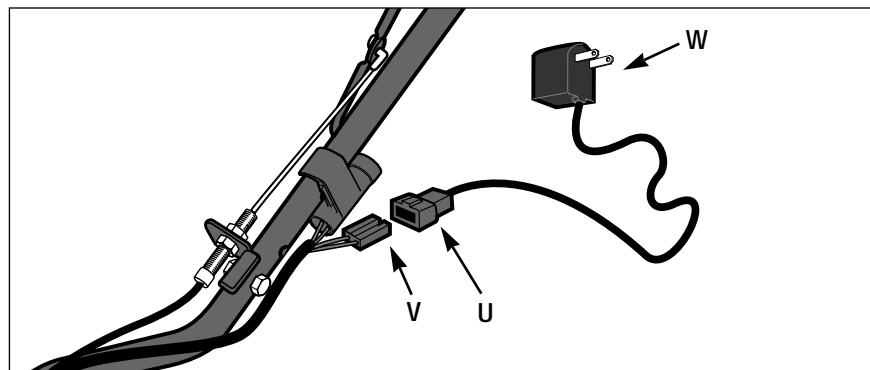

Figure 2-7
2. Connect the small plug (U, Figure 2-7) on the battery recharger cord to the wire harness plug (V) located near the keyswitch. Then, plug the charger box (W) into a grounded, 220V wall outlet.
3. Charge the battery for 24 hours. After charging, first unplug the charger box (W) from the wall outlet, then disconnect the recharging line plugs (U and V).